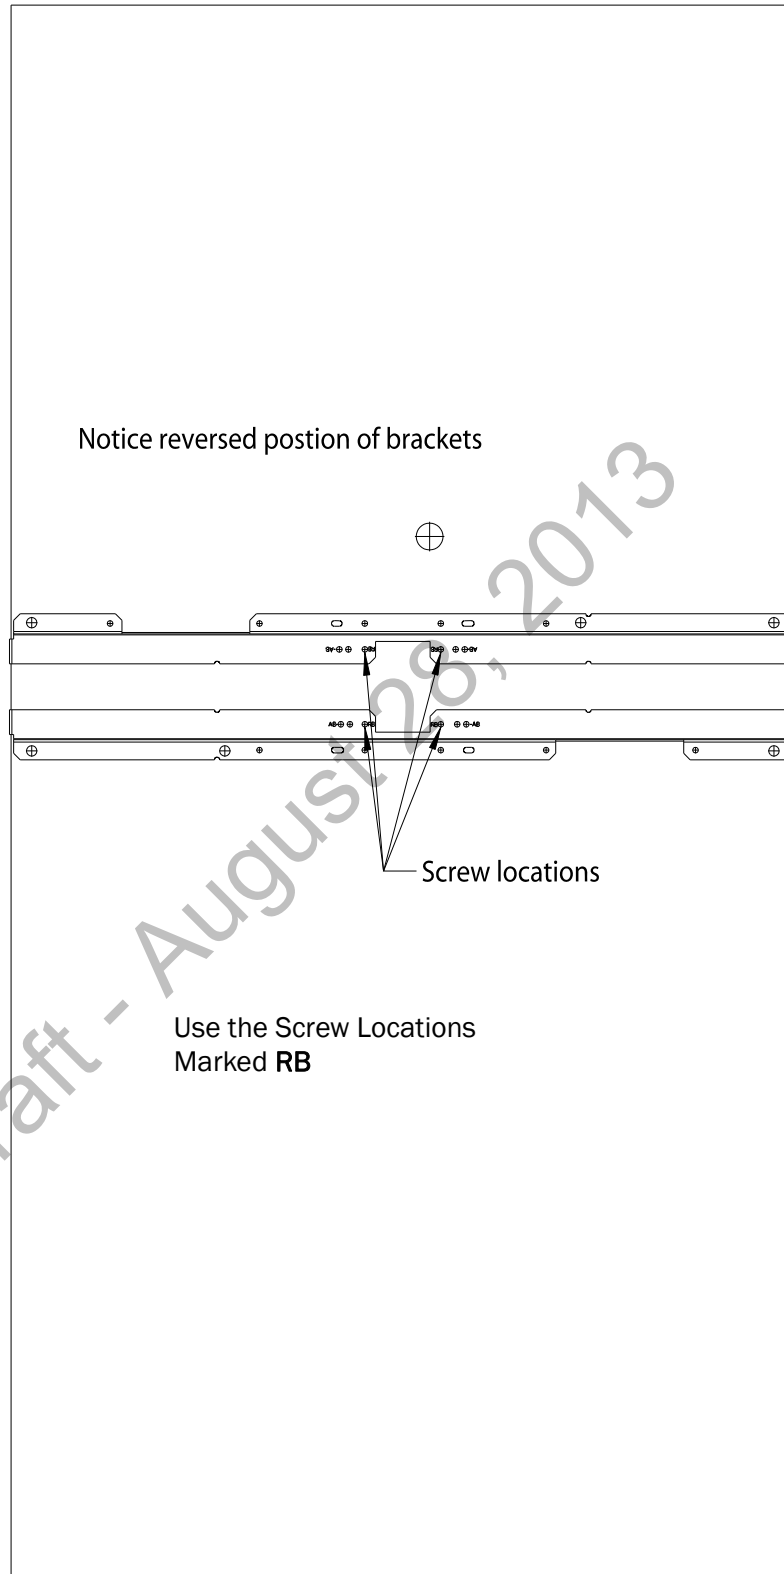

Figure 2-22: RA Below Ceiling Tile Mounting Rail Screw Locations
4. Mark the location of the "RB" screw holes in the mounting rails on the ceiling tile where the holes will be drilled through the tile as shown in Figure 2-22. Drill four 0.25-inch (6 mm) diameter holes in the ceiling tile.
8. Insert the four (4) M3-.5 x 30 lobe screws into the RA mounting rail holes, through the ceiling tile, through the provided plastic spacers, and into the mating holes in the back of the wall plate.